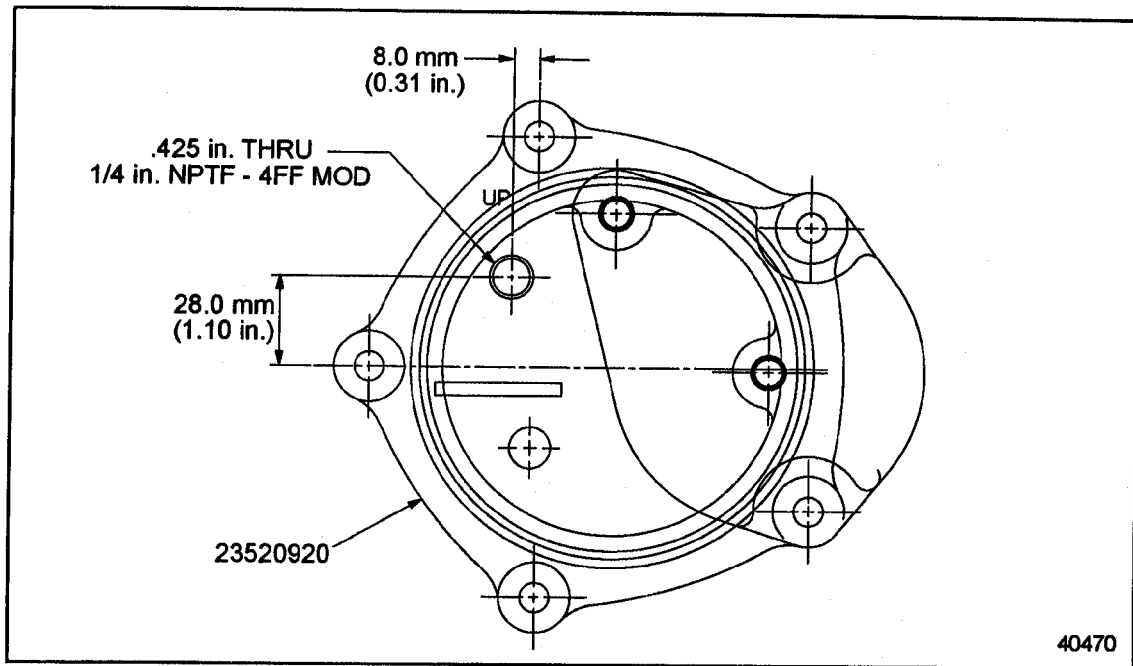

Figure 8-9 Location of Drilled and Tapped Vent Line Hole in Auto Tensioner Mounting Plate
7. Drill a 0.425 in. diameter hole on the left side of the mounting plate and thread with a 1/4 in. NPTF - 4FF tap. See Figure 8-9 for hole location.